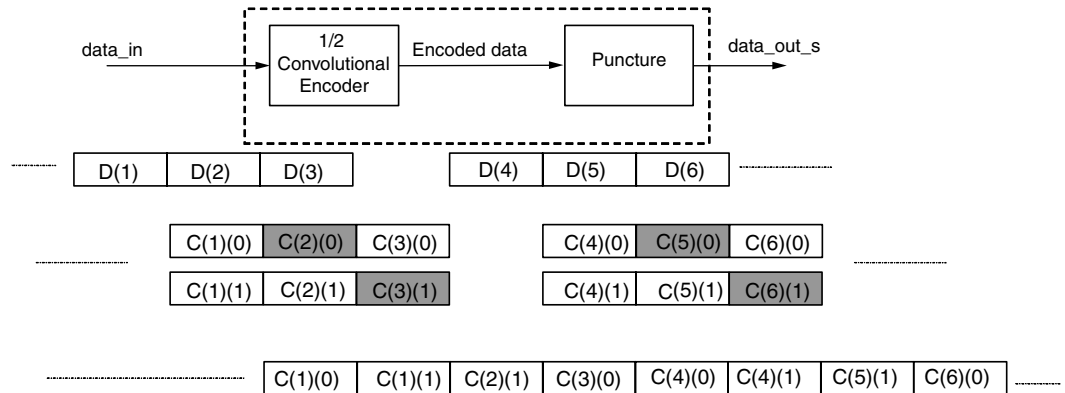

Figure 4-7: Puncturing Encoded Data with 3/4 Puncture Rate with Single-Channel Output
If the data has been punctured prior to transmission, then de-puncturing is carried out externally to the Viterbi Decoder (see Figures 4-7 and 4-8). The presence of null-symbols (that is, symbols which have been deleted prior to transmission across the channel) is indicated using the erasure input ERASE. The decoder functions exactly as a non-punctured Viterbi Decoder, except the corresponding DATA_IN inputs are ignored when the erased input bit is high. If ERASE(0) is high, then the input on DATA_IN0 is viewed as a null-symbol. If ERASE(1) is high, then the input on DATA_IN1 is viewed as a null symbol, etc. Although the normal usage of erasure is with a rate 1/2 decoder, the erasure pins can be present for output rates greater than 2. Erasure can be used with the